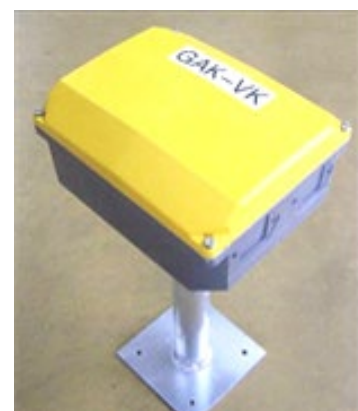

Figure 1 - GAK
2.1 Check the GAK is secure in the ground, undamaged, and the lid secure, see Figure 1.